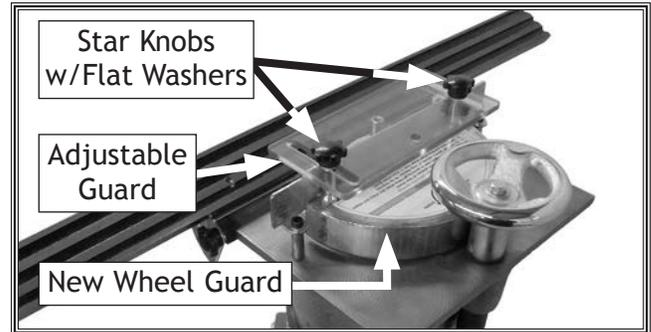

Figure 3. New wheel guard installed.
3. Install new wheel guard using fasteners from **Step 2** (see **Figure 3**).
4. Install adjustable guard on new wheel guard using (2) 1/4"-20 x 1/2" star knobs and (2) 1/4" flat washers, as shown in **Figure 3**.